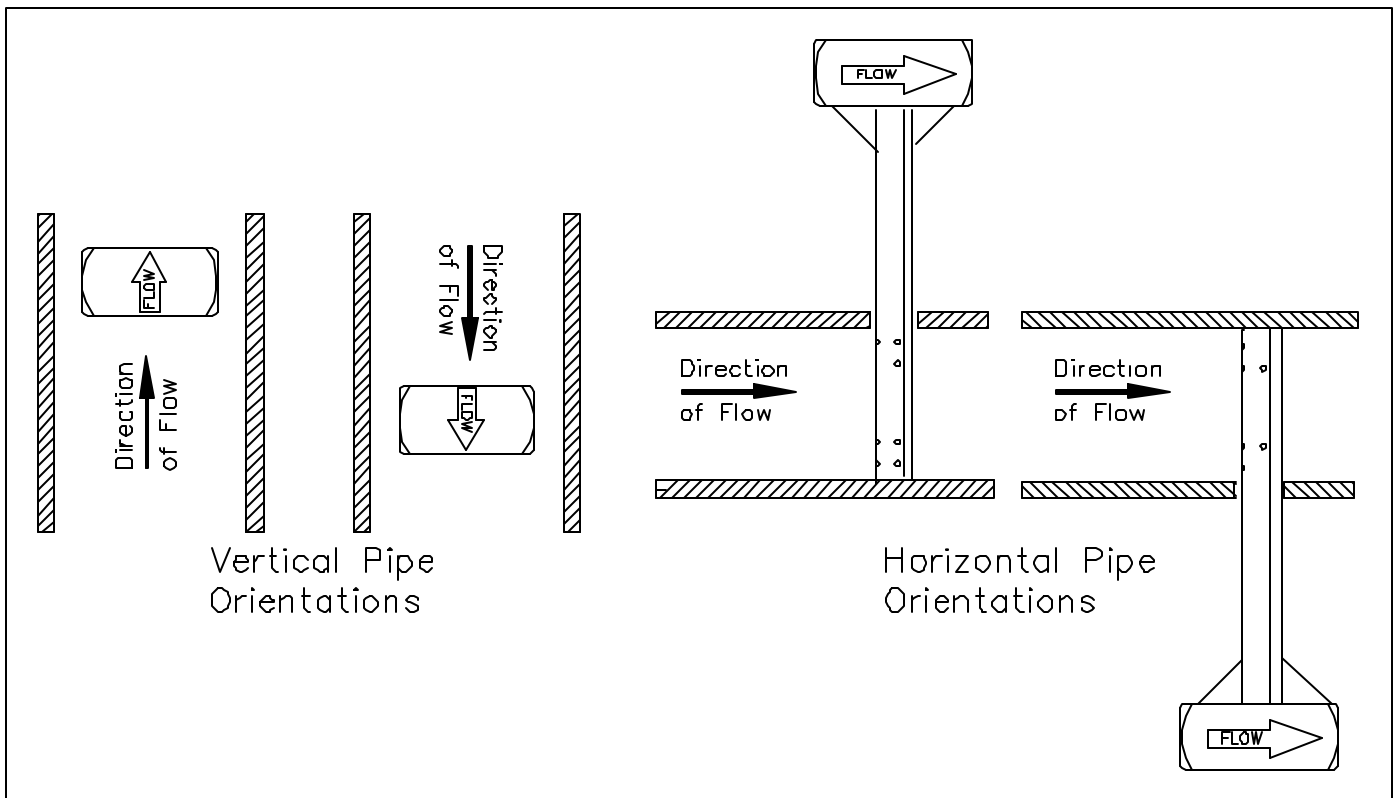

Figure 4. Orientation of Flow Arrow
- Align the head of the sensor so that the arrow labeled "flow" on the head is in the direction of the flow in the pipe to within 3° (Figure 4). Maintain the head in this position for the remainder of the operations.
- Reverify the alignment of the sensor such that the arrow labeled "flow" on the head is in the direction of the flow in the pipe to within 3° (Figure 4). A crescent wrench or pipe wrench can be applied to the head of the sensor to make alignment adjustments.